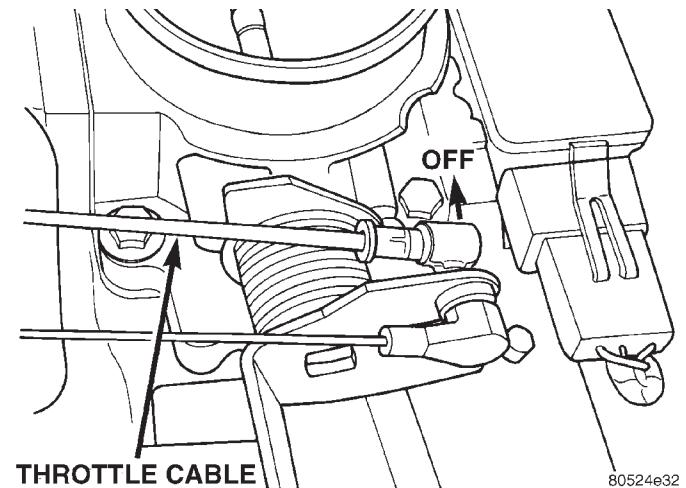

Fig. 40 Throttle (Accelerator) Cable at Throttle Body—Typical
- (5) Remove throttle cable ball end socket at throttle body linkage (snaps off) (Fig. 40).